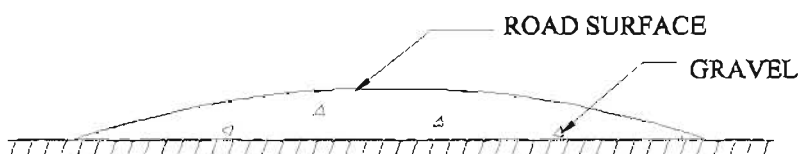

Fig. 8.11 FEATHER EDGE TYPE CONSTRUCTION OF GRAVEL ROAD
- 2) Feather edge spread method (Fig 8.11)